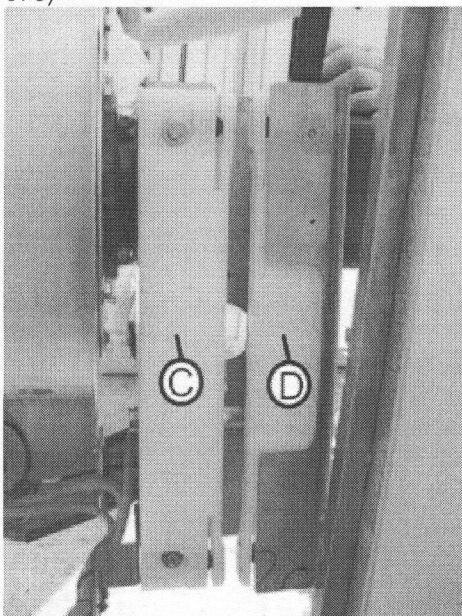

Fig. 075
5. Swivel roof brush aside on the relevant side and dismantle sliding blocks (C) and (D) (Fig. 075)
6. Mount new sliding blocks on running wagon. Make sure that the screws of the sliding block (D) are secured with removable assembly adhesive (Fig. 075).